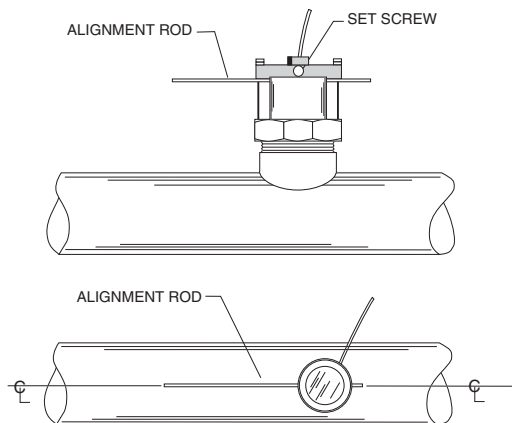

Figure 2: Alignment of Flow Sensor in 220BR and 220SS
1. Loosen positioning collar set screws with a 3/32 inch Allen wrench. Place the alignment rod through the sight holes in the flow sensor. Refer to Figure 2. Using the alignment rod as a guide, align the flow sensor so that the flow label arrow matches pipe flow direction and so that the alignment rod is exactly parallel to the pipe. This procedure aligns the impeller directly into the fluid flow.